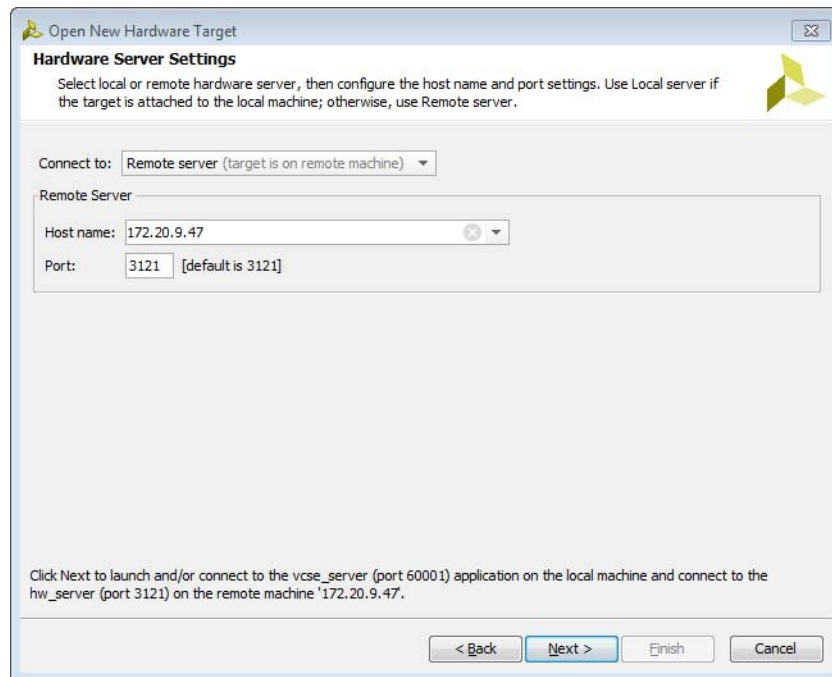

Figure 2-13: Using a Remote Hardware Server
- Remote server: Use this setting if your hardware target is connected to a different machine on which you are running the Vivado IDE. Specify the host name or IP address of the remote machine and the port number for the hardware server (`hw_server`) application that is running on that machine (see Figure 2-13). Note that Vivado will automatically start the Vivado CSE server (`vcse_server`) on the local machine. Refer to Connecting to a Remote hw_server Running on a Lab Machine in Chapter 5 for more details on remote debugging.